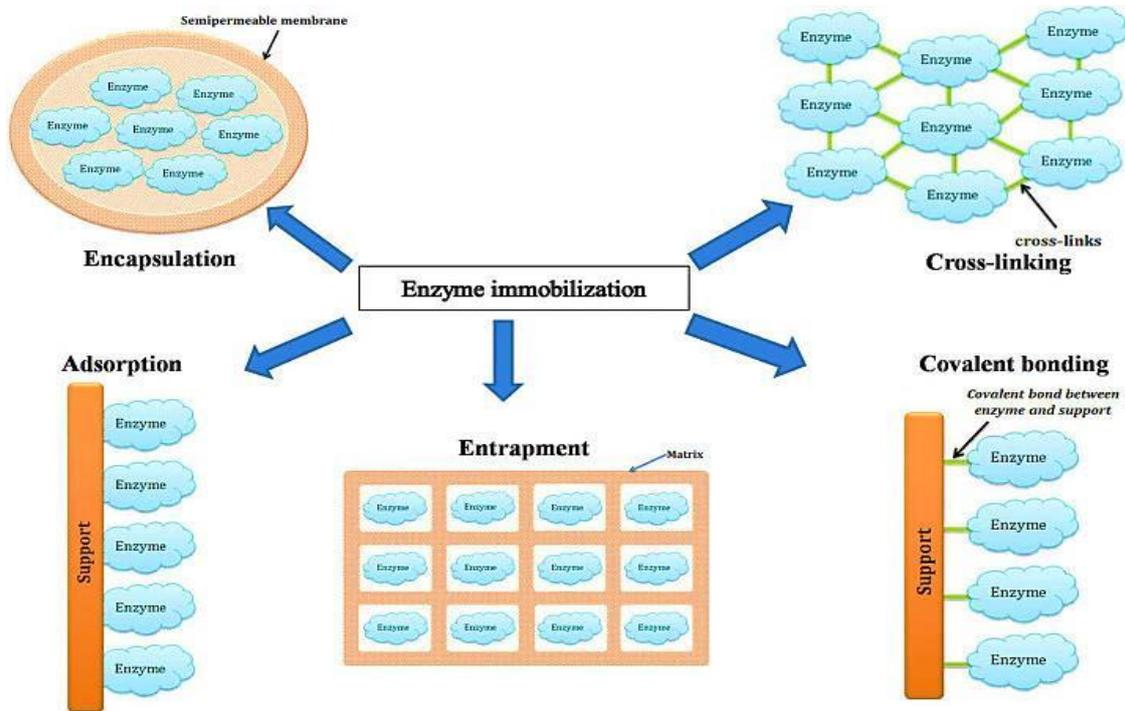

Fig. 8.1: Enzyme immobilization methods
The methods of immobilization available are equally applicable to cell and enzyme. Physical and chemical methods are used for enzyme immobilization (EI) (Fig.8.1).